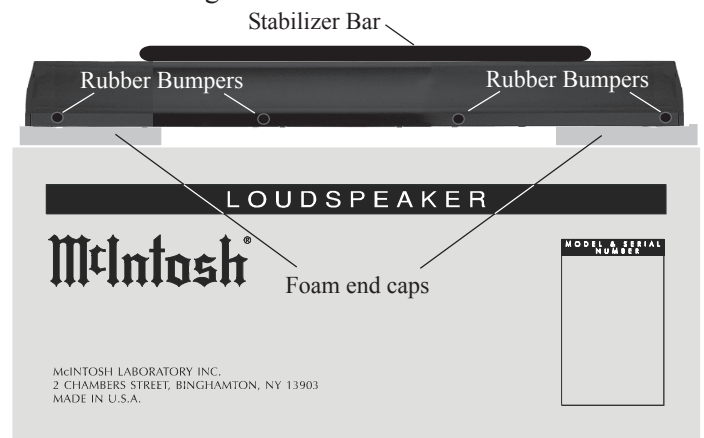

Figure 8
6. Place the Loudspeaker System, with the front facing down, on foam end caps located on top of the shipping carton. Refer to figure 8.
- Attach the four rubber bumpers to the bottom long edge of the XCS350 Loudspeaker System. Refer to figure 8.